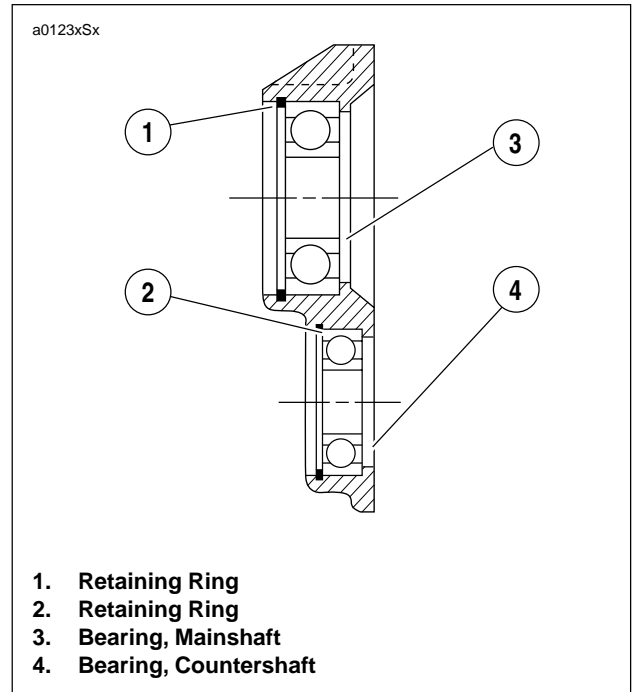

Figure 6-53. Ball Bearing Assembly
5. See Figure 6-53. If bearing replacement is required, remove retaining rings (1, 2). Press out bearings (3, 4) from the inside of the crankcase.